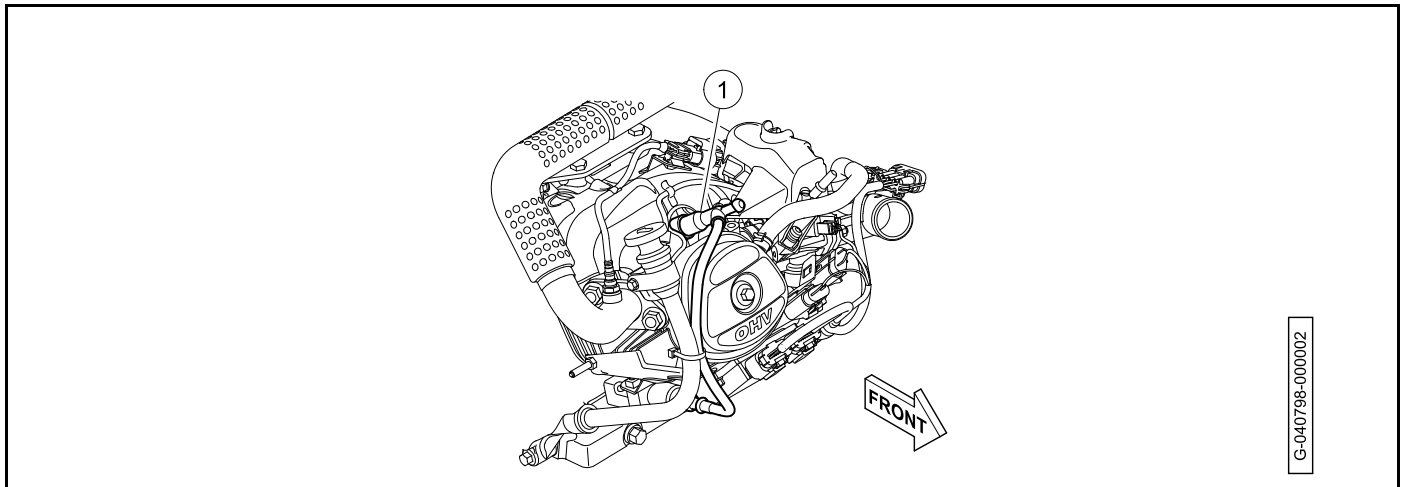

Figure 3-2 Spark Plug Wire
- 14.1. Disconnect the spark plug wire (1) (**Figure 3-2, Page 3-5**).